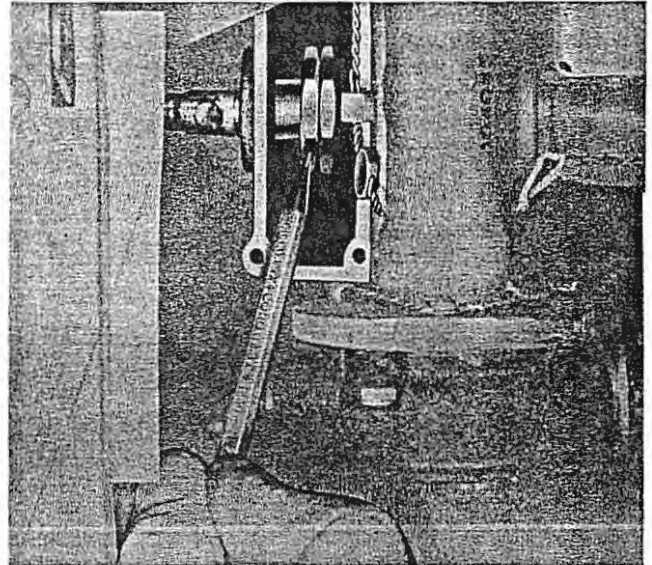

Figure 2-39. Flap Overload Clutch Adjustment
- e. Loosen the lock nut and turn the adjusting nut (figure 2-39) clockwise to increase tension or counterclockwise to decrease tension, as required to obtain a 19 ampere reading.